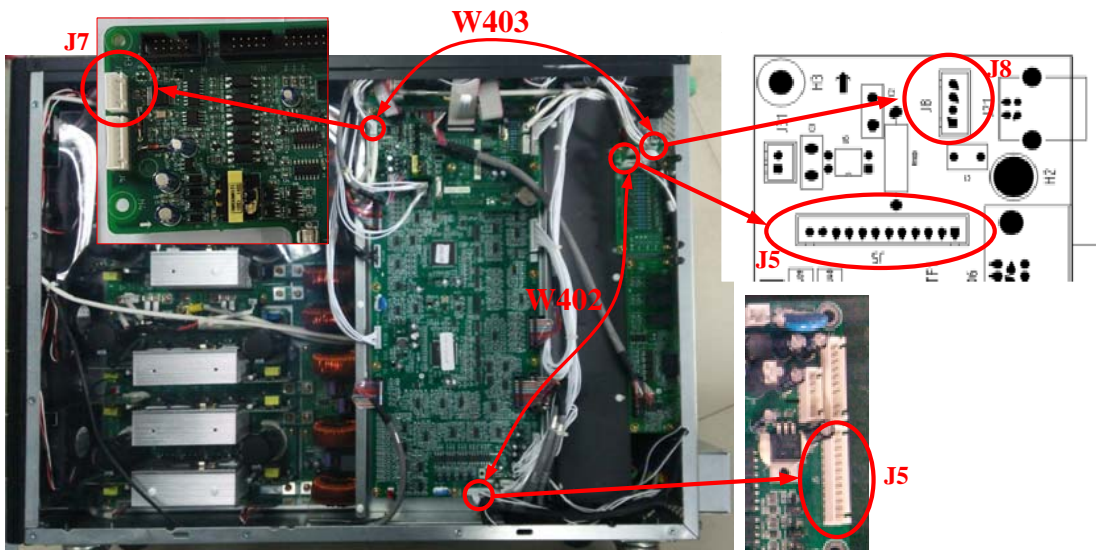

Figure 3 W402 and W403 cables
3. Connect the cable W402 and W403, as is shown in figure 3.